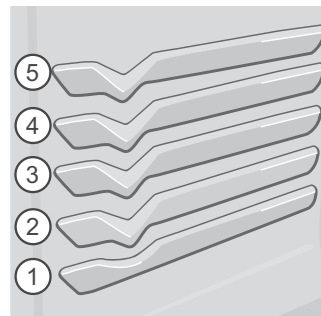

Figure 25: Rack positions
- For best results when baking cakes using two oven racks, place racks in positions 2 and 4 (See Figure 25).